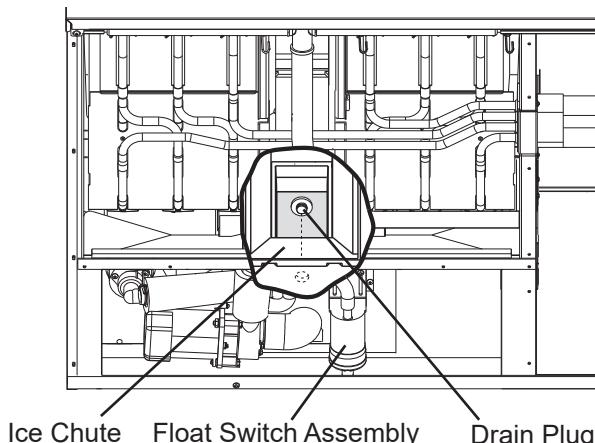

Fig. 10
- 7) Remove the insulation panel. Remove the drain plug located on the lower front part of the ice chute. See Fig. 10. Allow the water tank to drain.
- 5) Remove the drain plug located on the lower front part of the ice chute. See Fig. 10. Allow the water tank to drain.